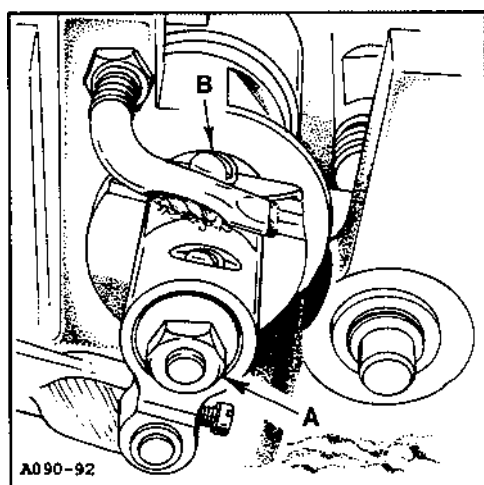

Fig. 15
This machine is designed to sew 7 to 14 stitches per inch. The normal factory setting is 12 stitches per inch. If the current stitch length has to be changed loosen locknut (A, Fig. 15) at the end of the mainshaft (it has a left-hand thread). Turn screw (B) clockwise to shorten the stitch or counter clockwise to lengthen the stitch. Tighten nut (A) and torque to 55 in. lbs. (6.2Nm).